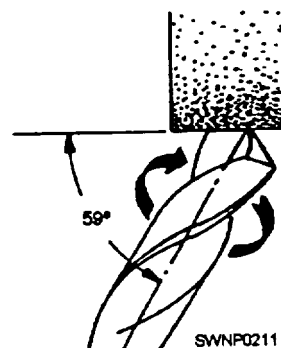

Figure 12-25.—The correct position of the drill bit at the start of the grinding operation. View is looking down on the grinder.
3. Stand so the centerline of the drill bit will be at a 59-degree angle with relation to the centerline of the wheel (fig. 12-25), and lightly touch the drill lip to the wheel in approximately a horizontal position.